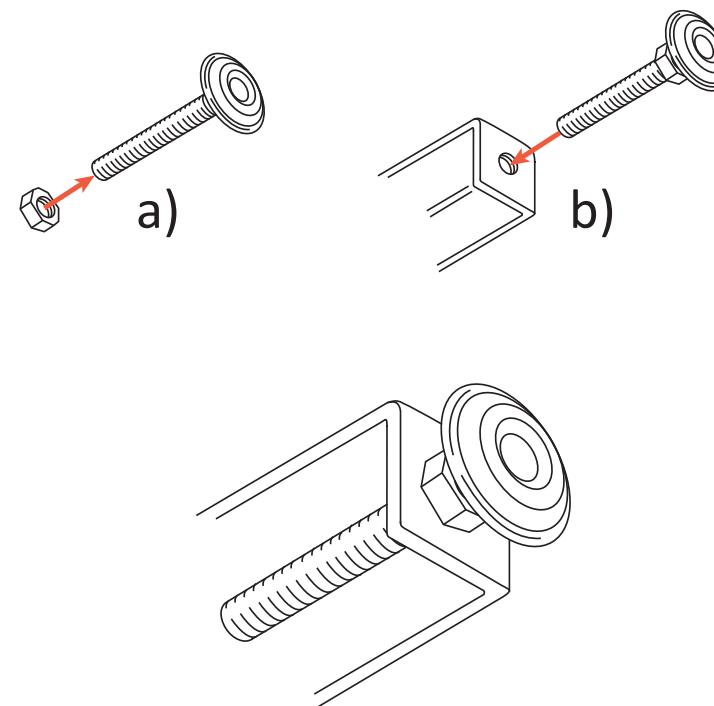

Figure A4. Installing a leg leveler and tightening nut.
4) Locate the game's four legs. Add a tightening nut and a leg leveler to each leg as shown in figure A4: a) Install a tightening nut onto each leveler. Thread it all the way down, next to the foot of the leveler. b) Thread the leveler/nut into each leg until the tightening nut is against its underside. With the cabinet set up on a perfectly level surface, this should provide a playfield pitch of approximately 6.5°, front to back.